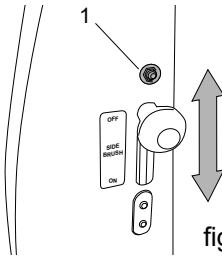

fig. 15
Lower the left and/or right side brush by pulling the appropriate levers up or down (fig. 15).
**NOTE:** a resettable fuse is fitted above each side brush lever. If a side brush stops working, press the button to reset the fuse (fig. 15, rif. 1).